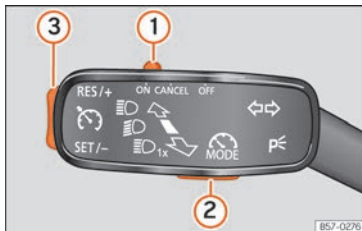

Fig. 229 On the left of the steering column: control and buttons to operate the speed limiter.
»» Fig. 229 (1) of the turn signal lever into position **CANCEL** or the third lever into pressure point **CANCEL** or press button (2) on any lever. »